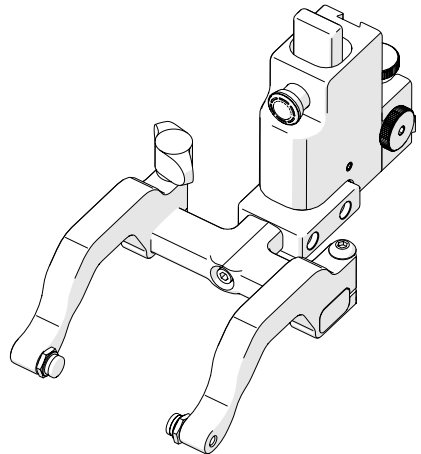

Fig. 87 - 90° probe holder positioning
2. Orient the yoke to the front of the probe holder and screw the yoke into the threaded hole provided (Fig. 87).